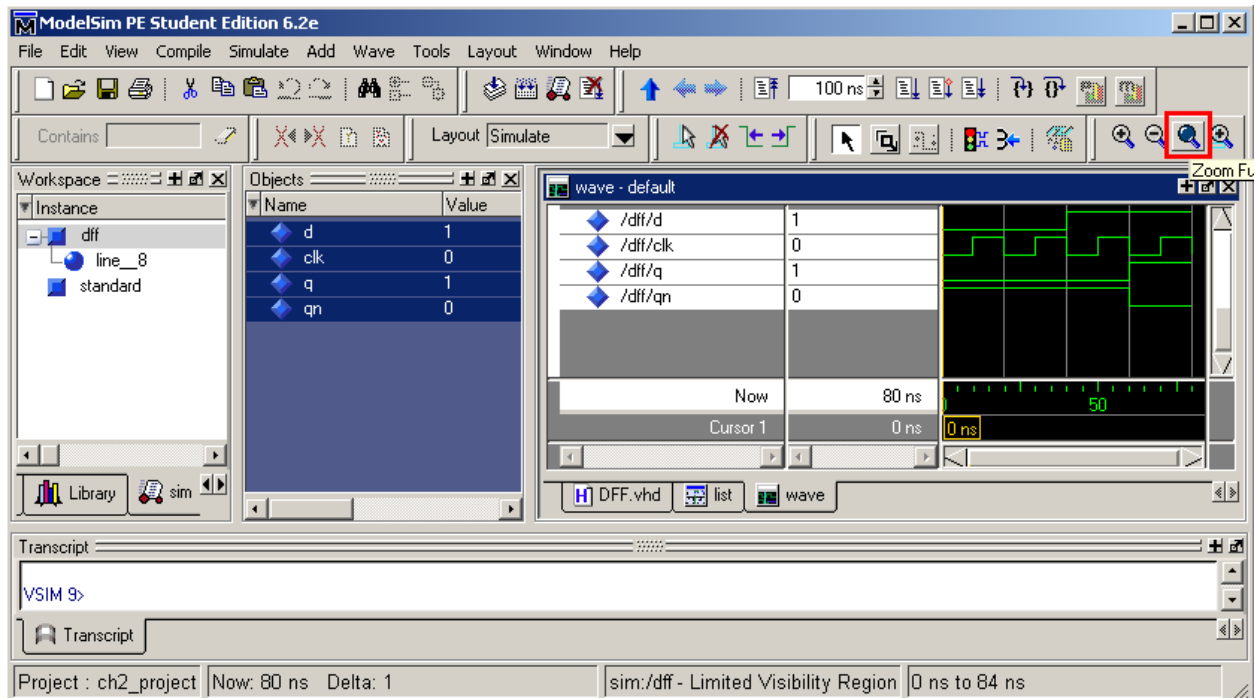

Figure 12: Simulation Results
11. Select the wave window, and click on the **“zoom full”** button (See Figure 12). Your simulation output should look similar to Figure 12.